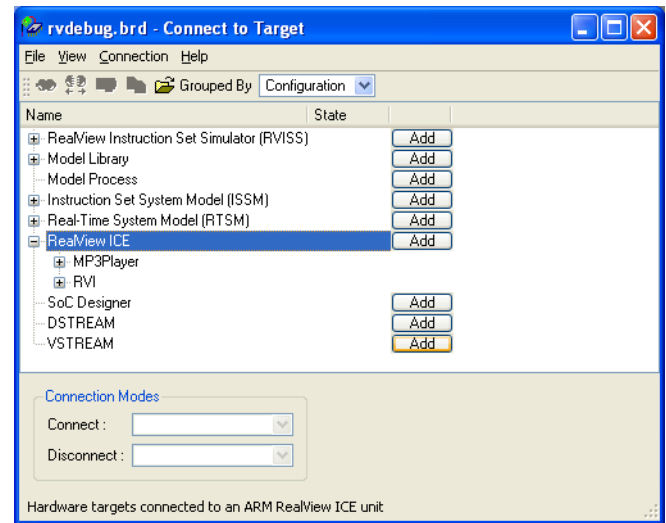

Figure 3-9 Connecting to the new target
3. Expand the required Debug Interface. For this example, expand RealView ICE. The current RealView ICE Debug Configurations are displayed. Figure 3-9 shows an example: